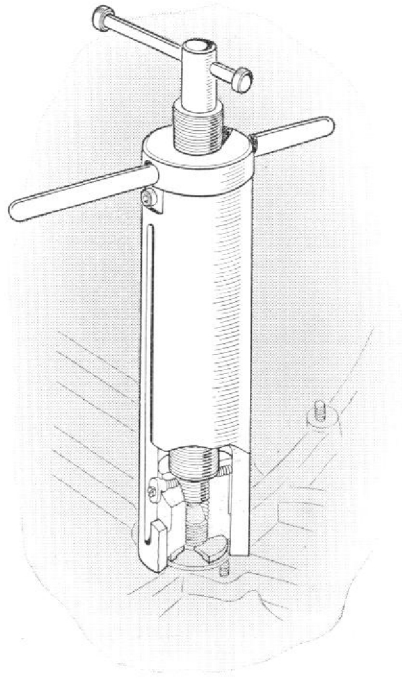

Fig. 2. Extractor T.76529 for removing hollow diffuser bolts.
T.76529 to remove the hollow diffuser bolts, Fig. 2.